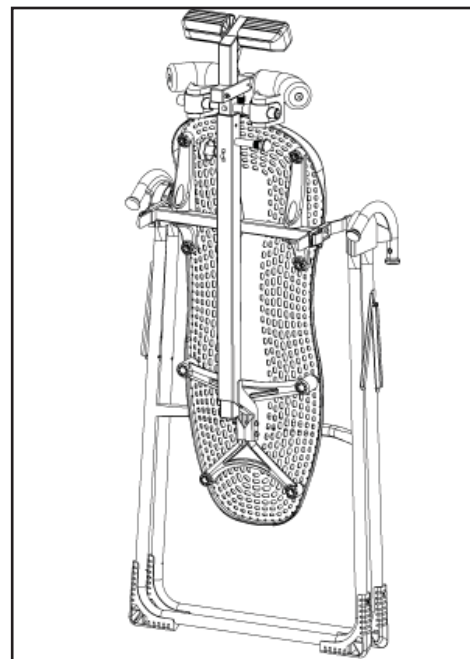

Figure 16
- Pull up on the spreader arms to fold the A-frame (Figure 16). **WARNING: This operation may pinch fingers if not done slowly and carefully.**